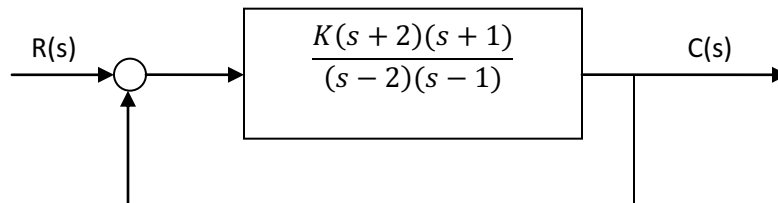

Figure Q5: Closed loop control system.
Figure Q5 shows a closed loop control system.
- (a) Make an accurate plot of the root locus for the system in Figure Q5. [8]